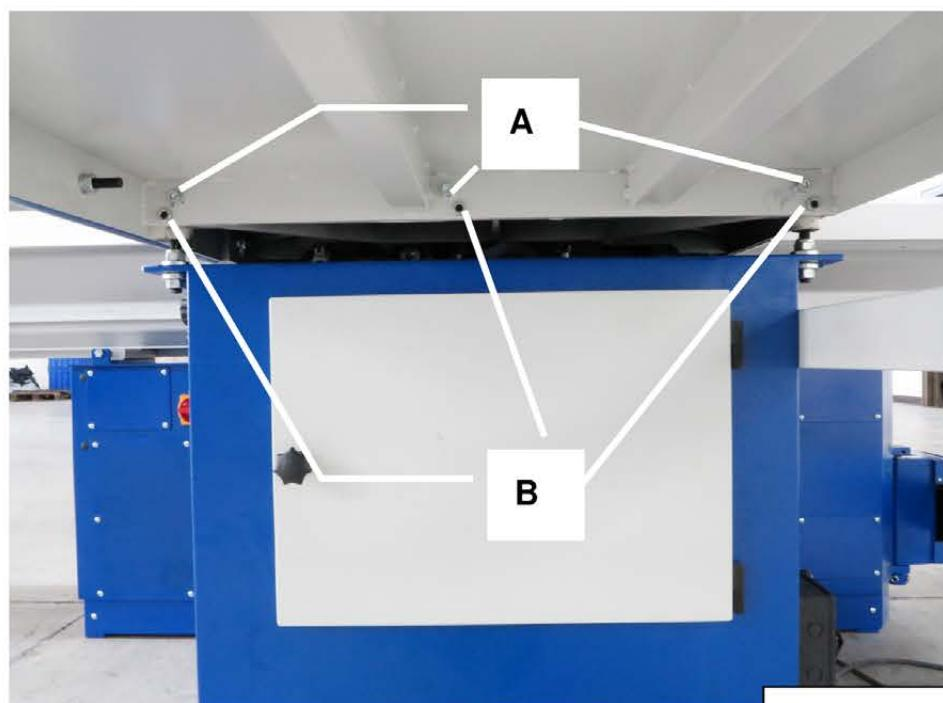

Figure 3-5.2
2. If it is not aligned, screw down the three screw A(Fig. 3-5.2)
3. Then adjust the alignment with screws B(Fig. 3-5.2)